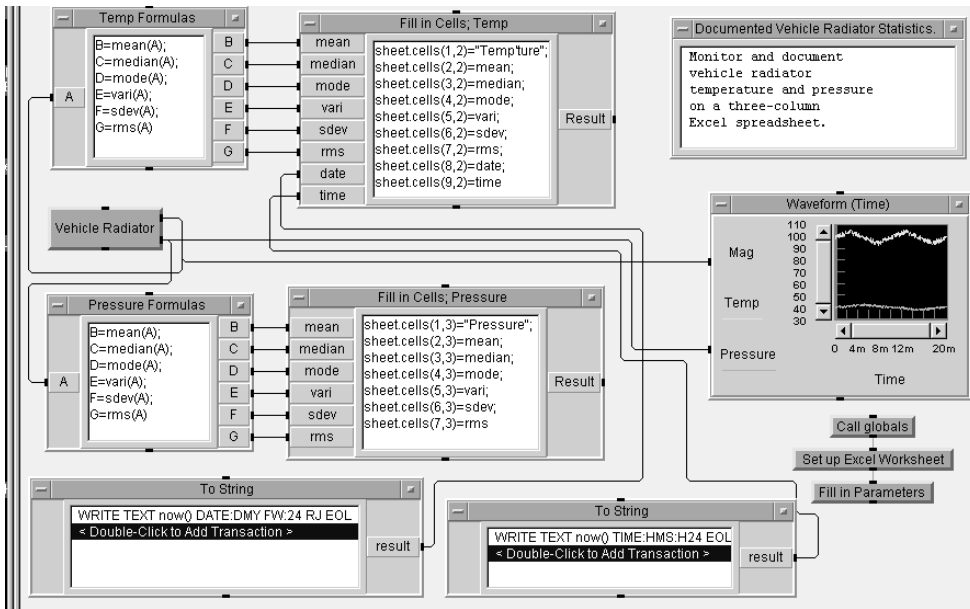

Figure 10.5. The VEE Pro program for Lab 10-2 after running
32. The VEE Pro program should look like Figure 10.5.